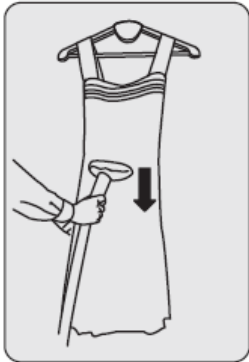

Fig.8
- The high temperature steam is for softening the cloth fiber only. The correct way of steaming cloth is to make the cloth straight with the pulling force. Therefore, grasp the bottom of cloth with hands and pull it downwards. (See Fig.8)